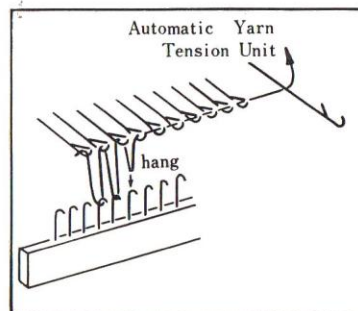

Fig. 45
- 5) Using the crochet hook, hang the yarn to the hook of the cast-on comb. (See Fig.45)